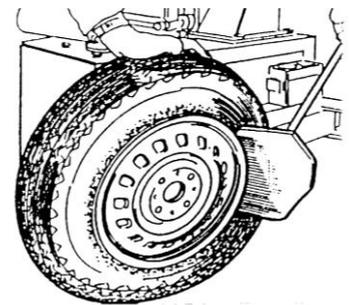

Fig 7
- 3) Open the bead breaker arm by hands by pushing it towards the outside, place the tyre against the rubber buffer. Bring the paddle against the bead about 10mm from the edge of the rim shown as Fig 7.